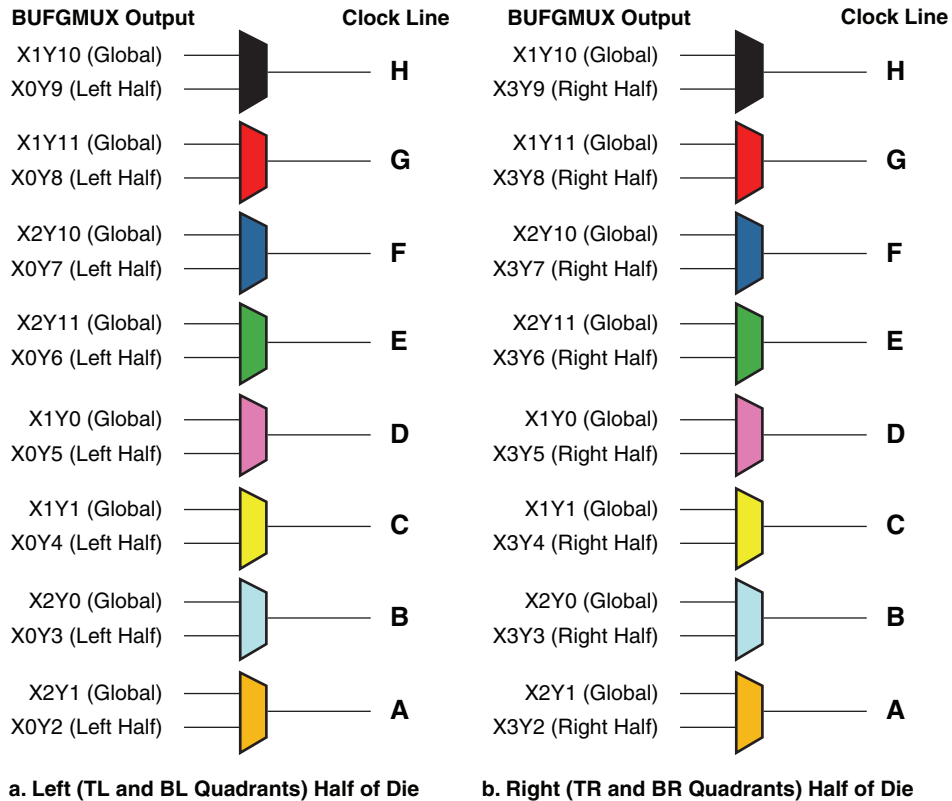

Figure 47: Clock Sources for the Eight Clock Lines within a Clock Quadrant
2. See Figure 45 for specific BUFGMUX locations, and Figure 47 for information on how BUFGMUX elements drive onto a specific clock line within a quadrant.
The clock routing within the FPGA is quadrant-based, as shown in Figure 45. Each clock quadrant supports eight total clock signals, labeled 'A' through 'H' in Table 41 and Figure 47. The clock source for an individual clock line originates either from a global BUFGMUX element along the top and bottom edges or from a BUFGMUX element along the associated edge, as shown in Figure 47. The clock lines feed the synchronous resource elements (CLBs, IOBs, block RAM, multipliers, and DCMs) within the quadrant.
in a single clock quadrant. Figure 47 shows how the clock lines in each quadrant are selected from associated BUFGMUX sources. For example, if quadrant clock 'A' in the bottom left (BL) quadrant originates from BUFGMUX_X2Y1, then the clock signal from BUFGMUX_X0Y2 is unavailable in the bottom left quadrant. However, the top left (TL) quadrant clock 'A' can still solely use the output from either BUFGMUX_X2Y1 or BUFGMUX_X0Y2 as the source.